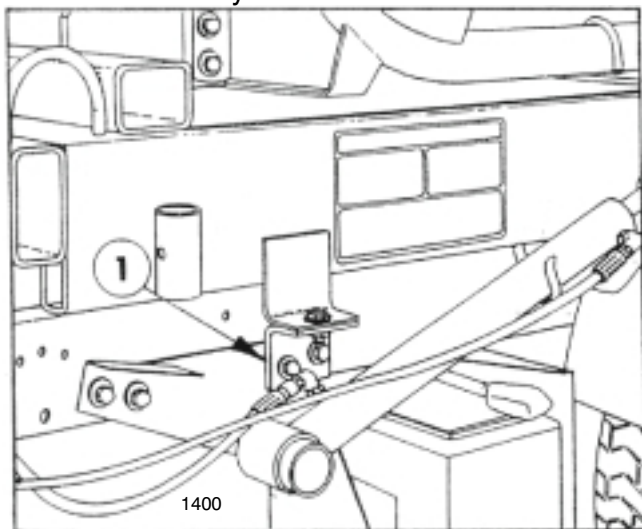

FIG. 4
14. Locate and remove two 1/2" bolts on each side of the Workman frame and install the Attachment Mounting Brackets, using the bolts and nuts removed earlier. See FIG 4. Tighten the nuts and bolts securely.
16. Secure the Mounting Frame to the Attachment Mounting Brackets with two 1/2" x 1-1/2" bolts four washers and lock nuts. See FIG. 4.